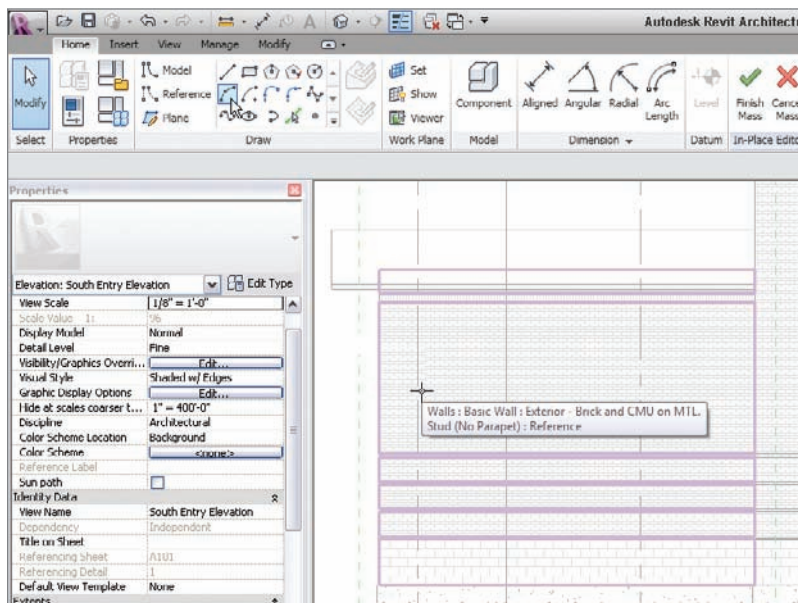

FIGURE 16.42 Starting the mass
4. On the Draw panel, click the Start-End-Radius Arc button, as shown near the top left in Figure 16.42.
5. You will be prompted to pick a work plane. Pick the far wall, as shown in Figure 16.42.